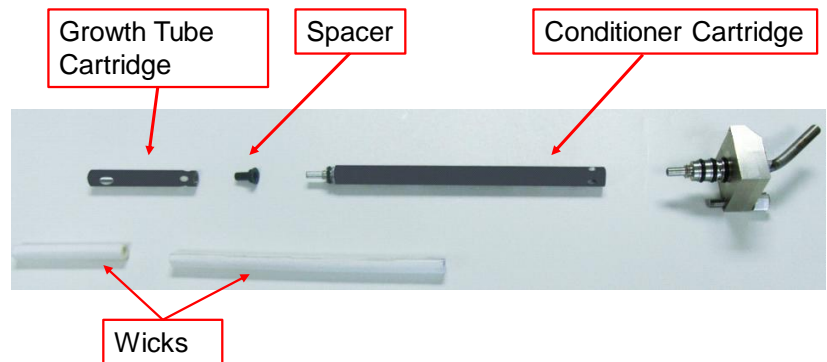

Figure 9-11
5. Unscrew the growth tube cartridge (short section) from the Conditioner wick cartridge. If the insulator spacer detaches, reinstall it on the conditioner wick cartridge (longer section)(Refer to Figure 9-11).